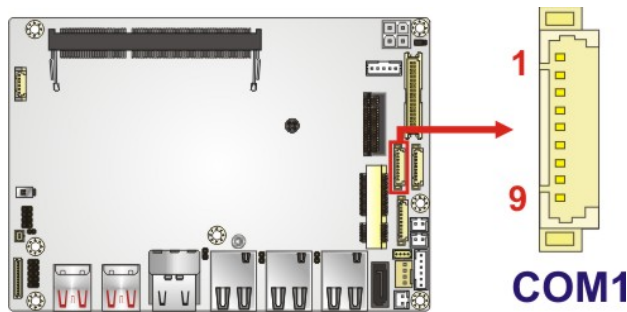

Figure 3-17: RS-232/422/485 Connector Location
- CN Location:** See **Figure 3-17**